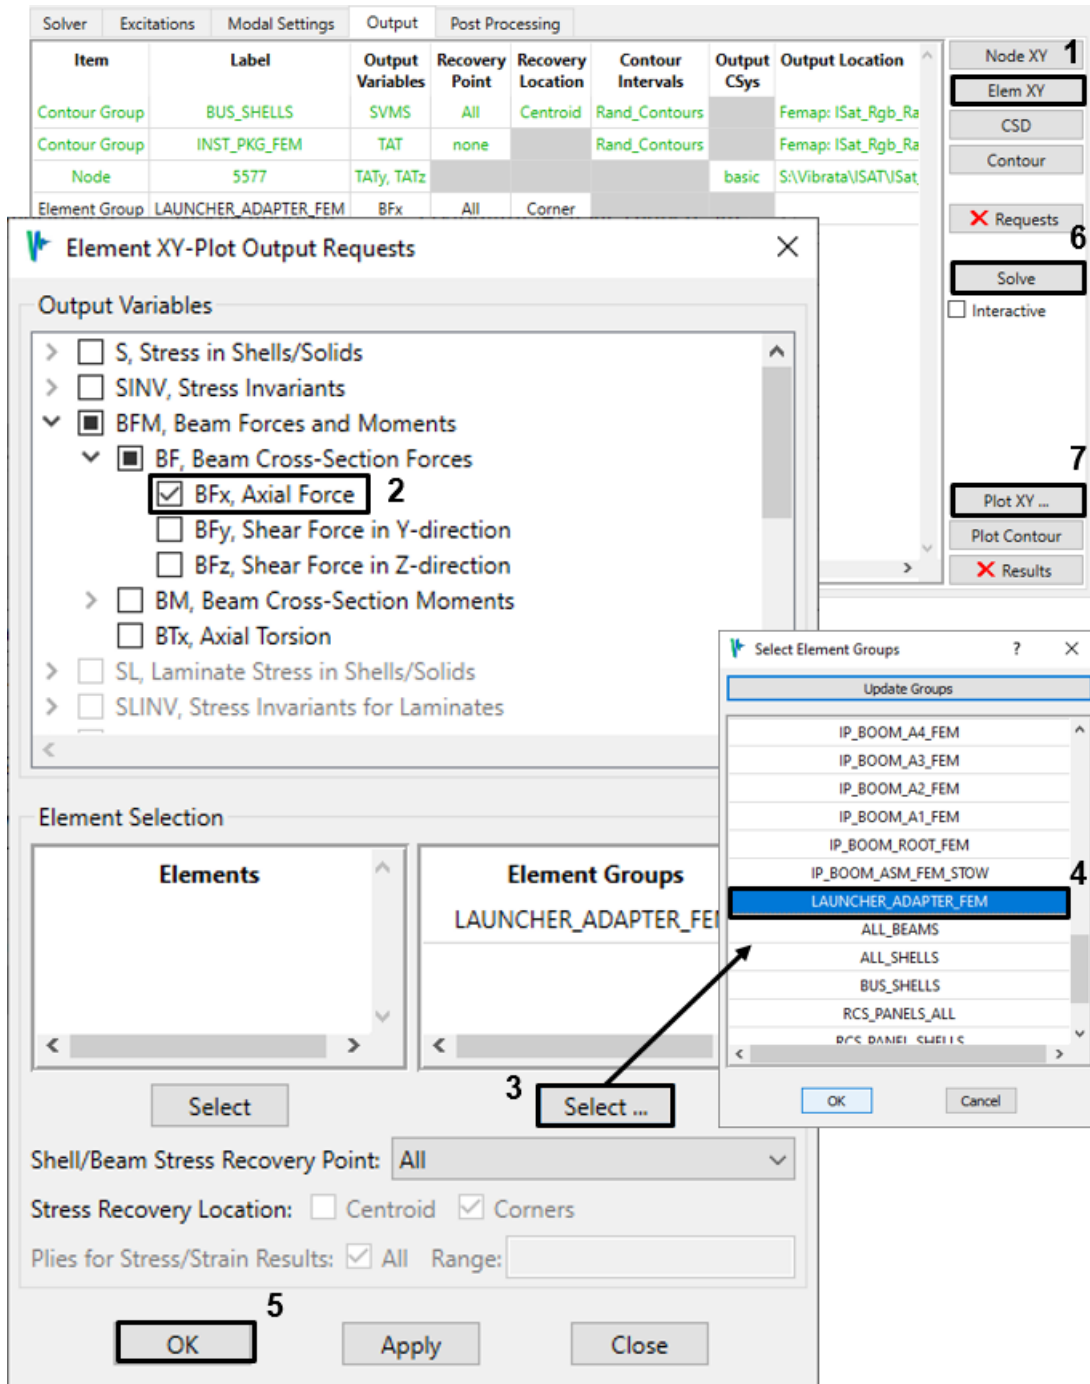
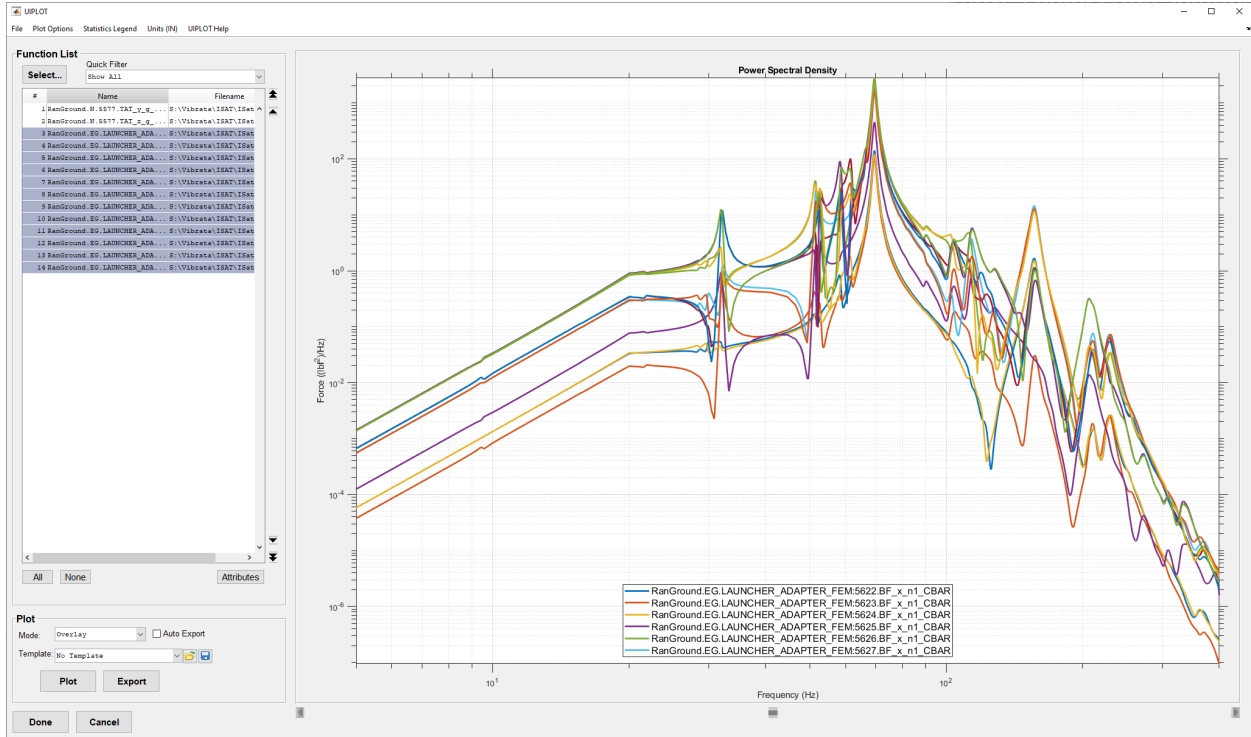

Figure 4-50. Request axial forces in the launcher adapter legs.
Figure 4-51. Axial forces in the launcher adapter legs, rigid base.
- It is also important that we not exceed allowable loads in the launcher adapter legs. Request axial force responses for the elements in group "LAUNCHER_ADAPTER_FEM" (Figure 4-50). Solve and plot (Figure 4-51). The RMS values, along with other statistics about the functions, can be displayed using the *UIPLOT* dialog's *Statistics Legend* menu. Note that element 5632 has the largest RMS value.